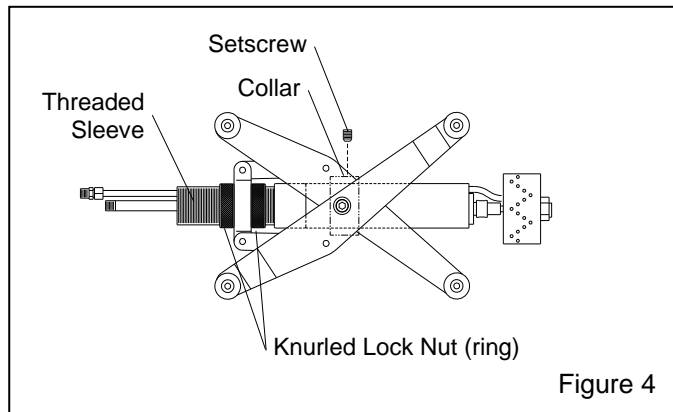

Figure 4
2.2.2 SK-512 with 5" to 12" carriage, ref. Figure 4
2.2.2.3 Slide the back of the tool through the collar, as shown in Figure 4.